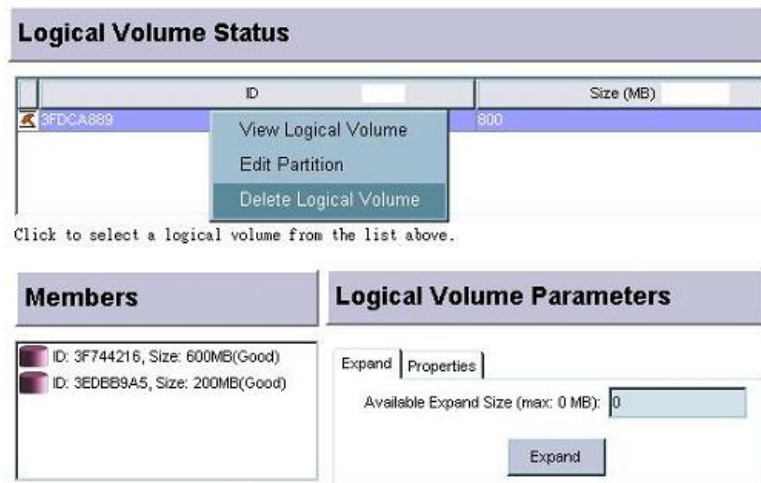

Figure 9-22: Displaying Logical Volume Edit Mode Menu
-  **Step 1.** Select the configured volume you wish to remove with a single mouse-click. **Right-click** the adjacent area to display a command menu. As shown in **Figure 9-22**, all the LVs that have been created will appear below the **Logical Volume Status** panel.